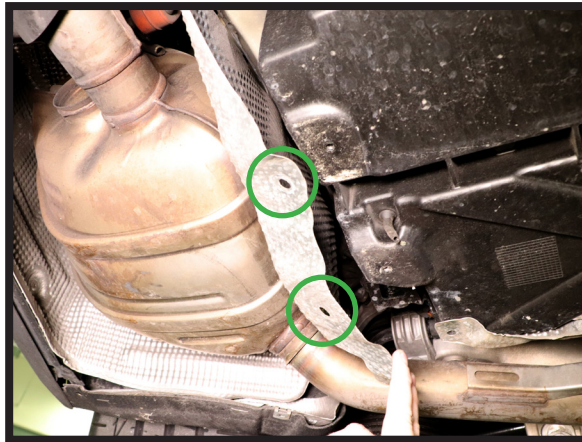

FIGURE 3
4. PARTIALLY REMOVE HEAT SHIELD TO GAIN ACCESS TO VALVE BLOCK. (FIGURE 3)